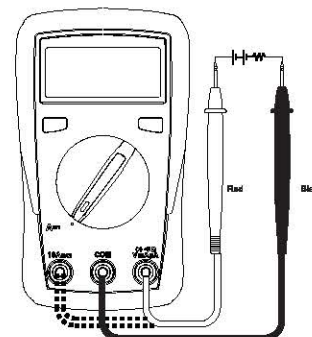

Figure 3
6. DC measurement (see Figure 3)
7. AC measurement (only for UT131A, see Figure 3)
Please refer to Section 6 "DC measurement (see Figure 3)"